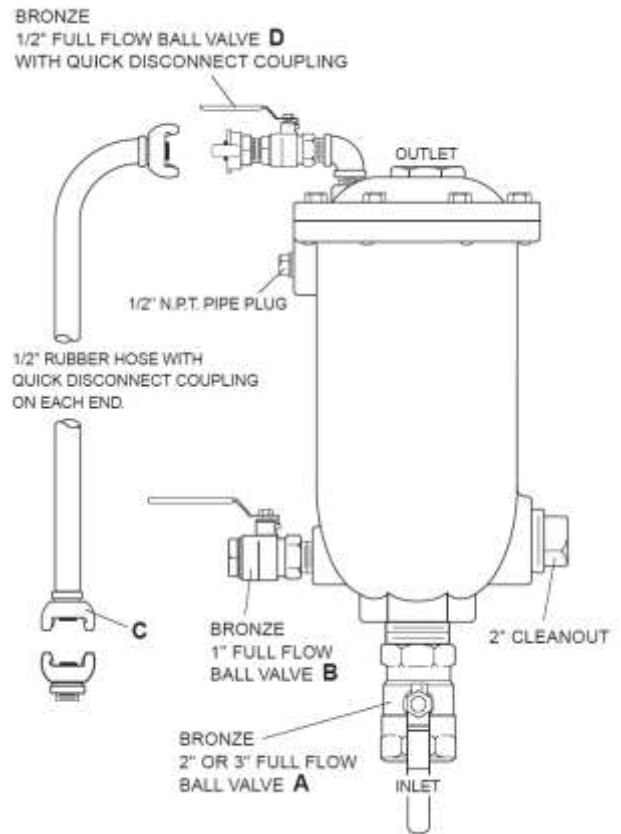
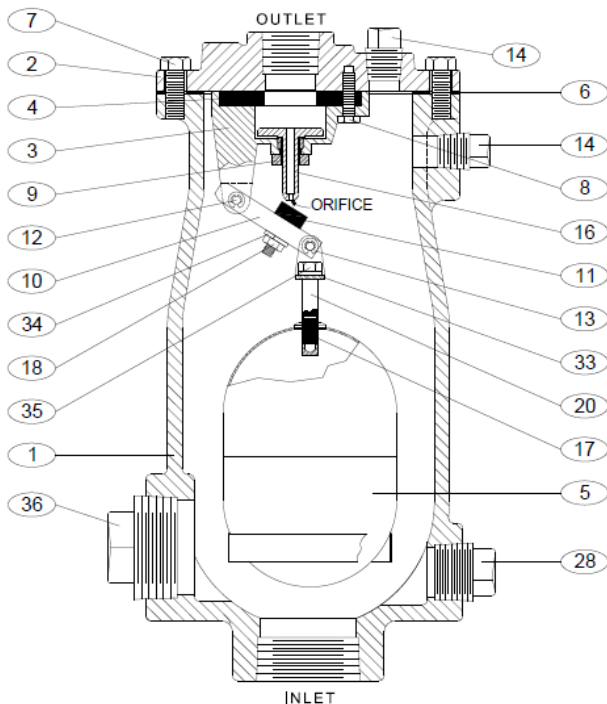

FIGURE 3. BACKWASH HARDWARE
FIGURE 4. VALVE ASSEMBLY
Refer to the Figure 3 for the correct piping arrangement. Please note the each Kit contains extra fittings such as reducer bushings that may not be needed for your valve. The fittings should be installed with a standard pipe compound such as Oatey White Thread Sealant (supplied) or sealing tape. The quick disconnect fittings (Air King Universal Couplings) are designed for easy push and turn connections to a clean water source.
Backwash Procedure: In order to properly backwash the valve, a 1" clean water supply of at least 30 psi is needed. This supply should be connected to the rubber hose with quick disconnect couplings as provided with the wastewater valve and shown in Figure 3.
1. See Figure 3. Close inlet shut-off valve (A). Open drain valve (B) or remove drain plug. See Figure 4. Remove the cover bolts (7) on the top cover.
2. Pry cover (2) loose with sharp chisel or screwdriver and lift off valve body. The float will be connected to the cover.
3. Remove the retainer screws (8) and inspect the seat (4) and button (11) for cracks in the rubber or wear in the sealing surfaces.
4. Remove the plug (16) from the baffle (3). The small orifice through the plug should be clean. The plug shaft and bushing (9) ID should be polished clean with 4x0 steel wool or 320 grit polishing compound.
5. Turn guide bushing (9) to remove it from the baffle. Remove the retainer rings (13) to disassemble the float arm assembly.
All parts must be cleaned and gasket surfaces should be cleaned with a stiff wire brush in the direction of the serrations or machine marks. Worn parts, gaskets and seals should be replaced during reassembly. Refer to Figure 4.